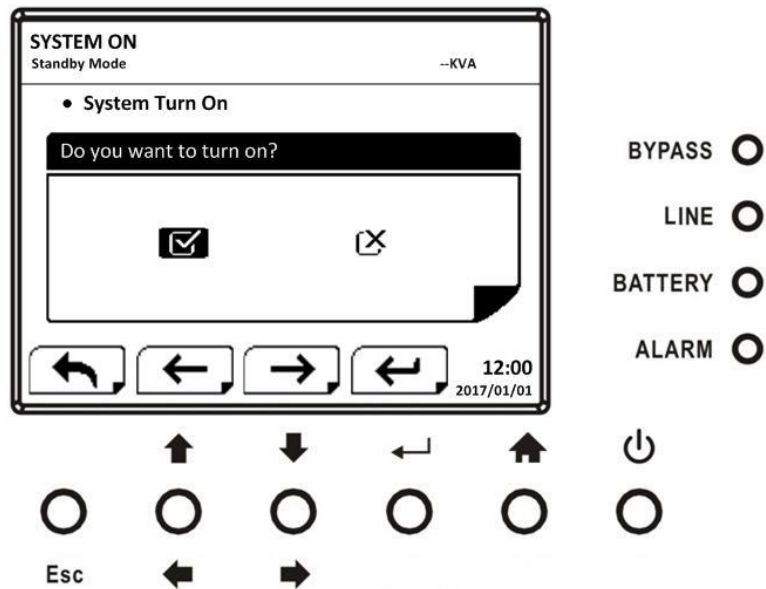

Figure 4-8 Confirmation screen
When the control option is selected by pressing “←” button, the confirmation screen will pop up. Use “←” or “→” button to choose “V” (YES) or “X” (NO). Choose “V” and press “←” button to confirm command or choose “X” to cancel command, as shown in Figure 4-8.